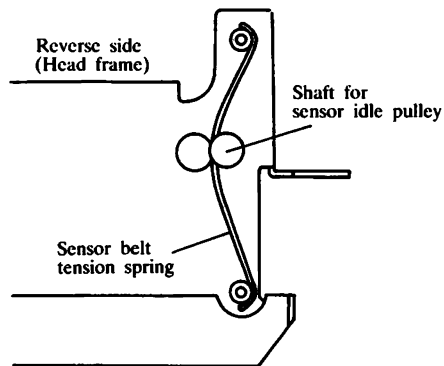

Fig. 38
- (4) Mount the Sensor idel pulley to the shaft and put the Snap ring E3. Then insert it into the fixed place from the front side of the frame and hook the Sensor belt tension spring to the shaft from the inside. (Refer to Fig. 38)